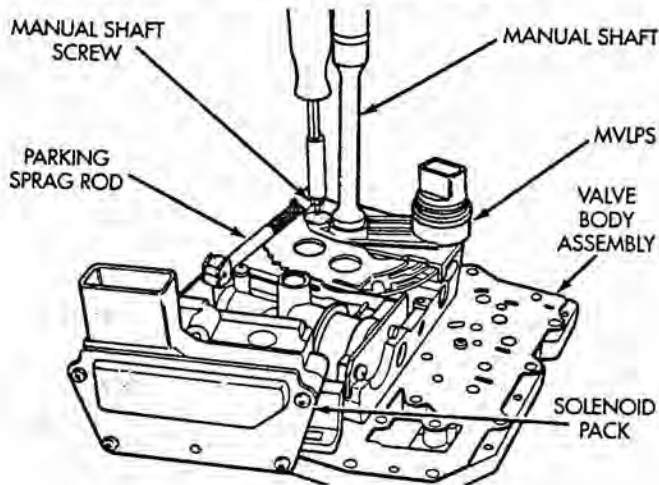

Fig. 9 Manual Shaft Screw
(1) Remove manual shaft screw (Fig. 9)